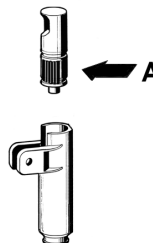

figure 2
- 2** Lubricate the faucet piston (in the area A shown in fig. 2) using food grade approved